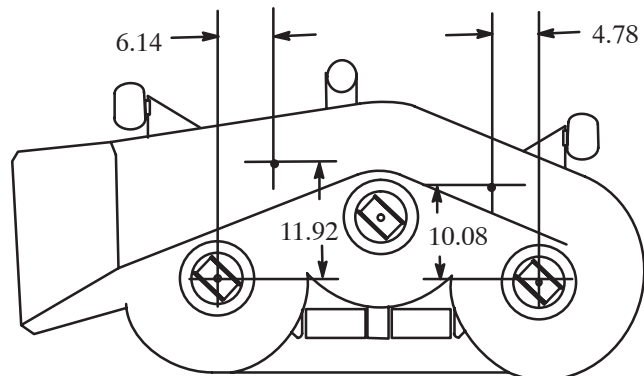

Figure 3
- On Groundsmaster mowers, use the dimensions shown in figure 3 to locate, mark and drill (2) .344" dia. holes thru top of the mower deck.